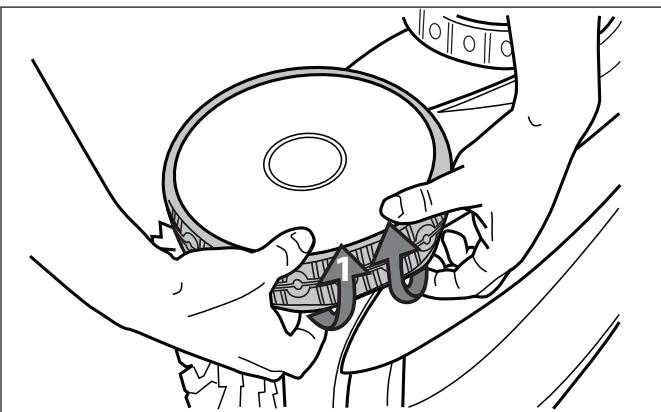

**Figure 30. Cut Tabs**
5. Use a pair of scissors to cut the tabs 3/4 inch from the heel so that they are no higher than the spikes (Figure 30).